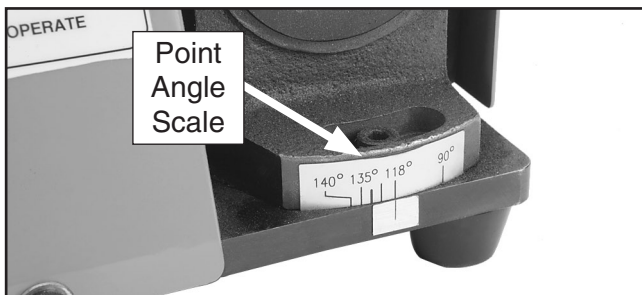

Figure 17. Point angle set to 118° .
2. Use the included hex wrench to loosen the cap screw on the point angle scale (**Figure 17**).